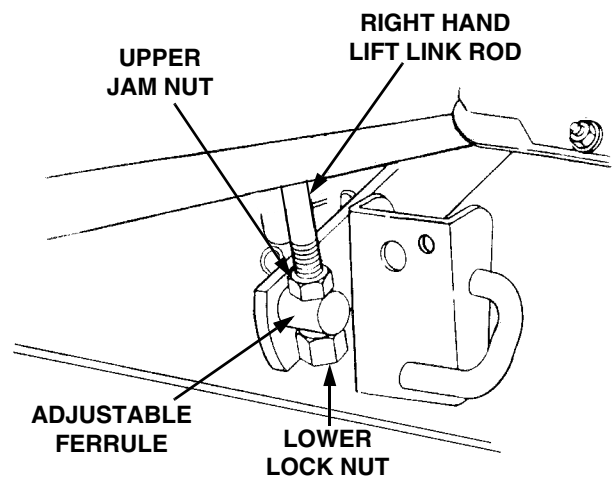

Figure 50
7. Side-to-side leveling is obtained utilizing the adjustment ferrule and right hand lift link rod (Refer to Figure 50).
8. Loosen the upper jam nut on the lift link rod and turn away from the adjustment ferrule. Turn the lower lock nut upward (tighten) on the threads of the rod to raise the right side of the mower deck. Turn the lock nut down (loosen) on the threads to lower the right side of the mower deck (See Figure 50).